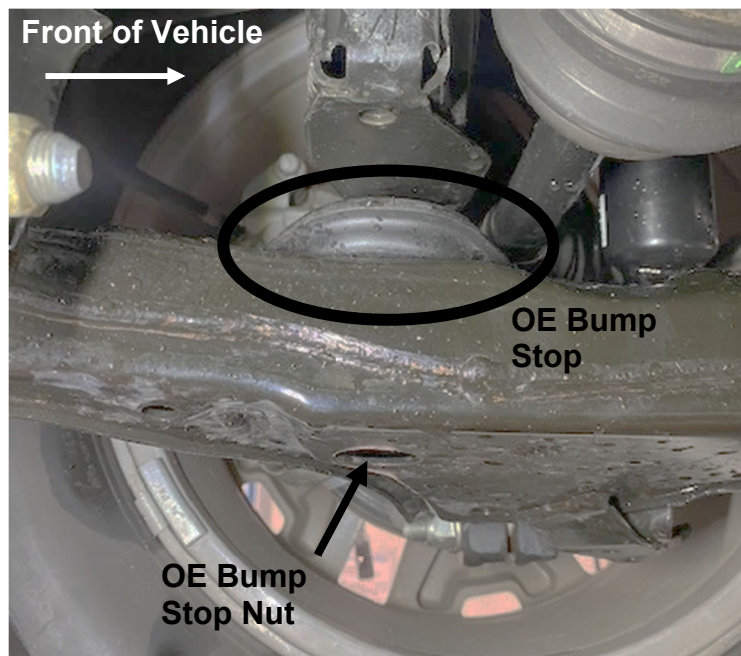

Figure 1: Driver's Side Bump Stop
- E. Before installation of the BILSTEIN shock absorber module, find the OE bump stop located on the lower control arm and the accompanying nut below (see Figure 1). Remove both the nut and bump stop.